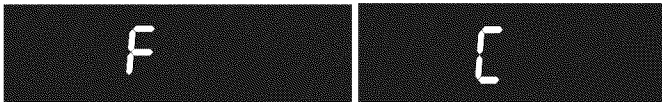

Figure 13: Display showing Fahrenheit and Celsius
2. Once F (or C) appears in the display, press **Self Clean** to toggle between Fahrenheit and Celsius temperature display modes (Figure 13).